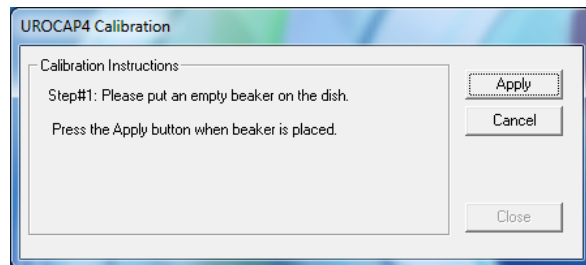

Figure 107: UROCAP4 Calibration Window
4. Place an empty beaker on the **Urocap™ IV** and then click **Apply** in the *UROCAP4 Calibration* window (Figure 107).